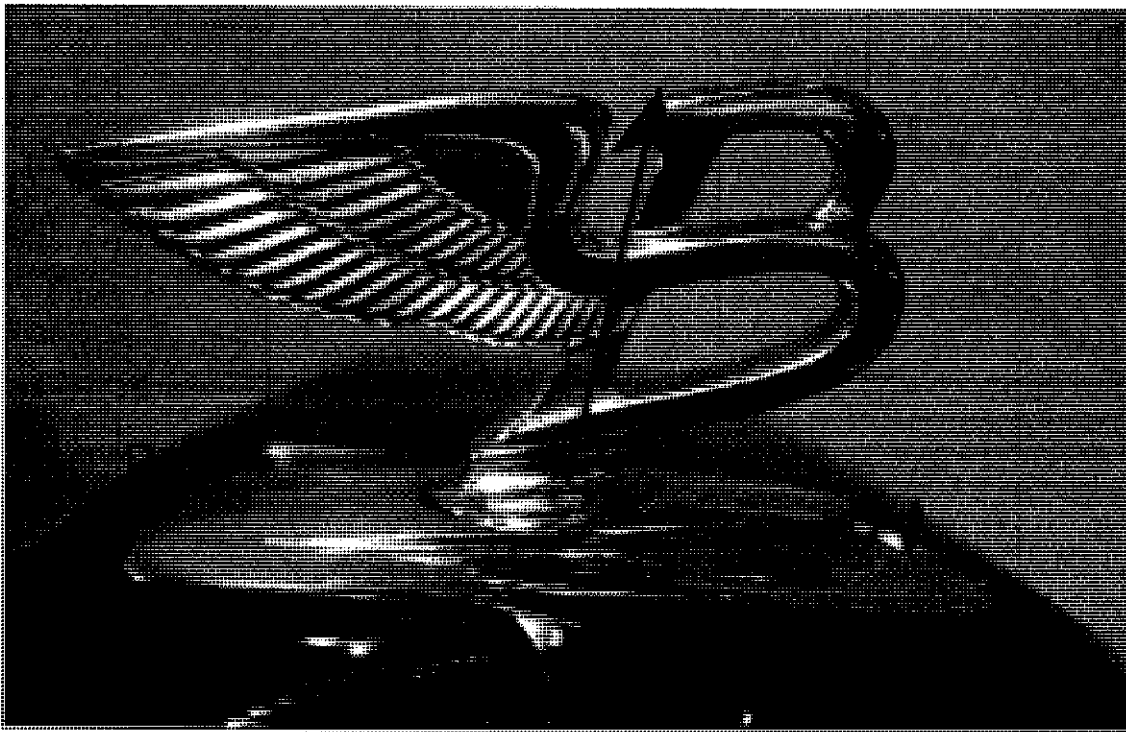
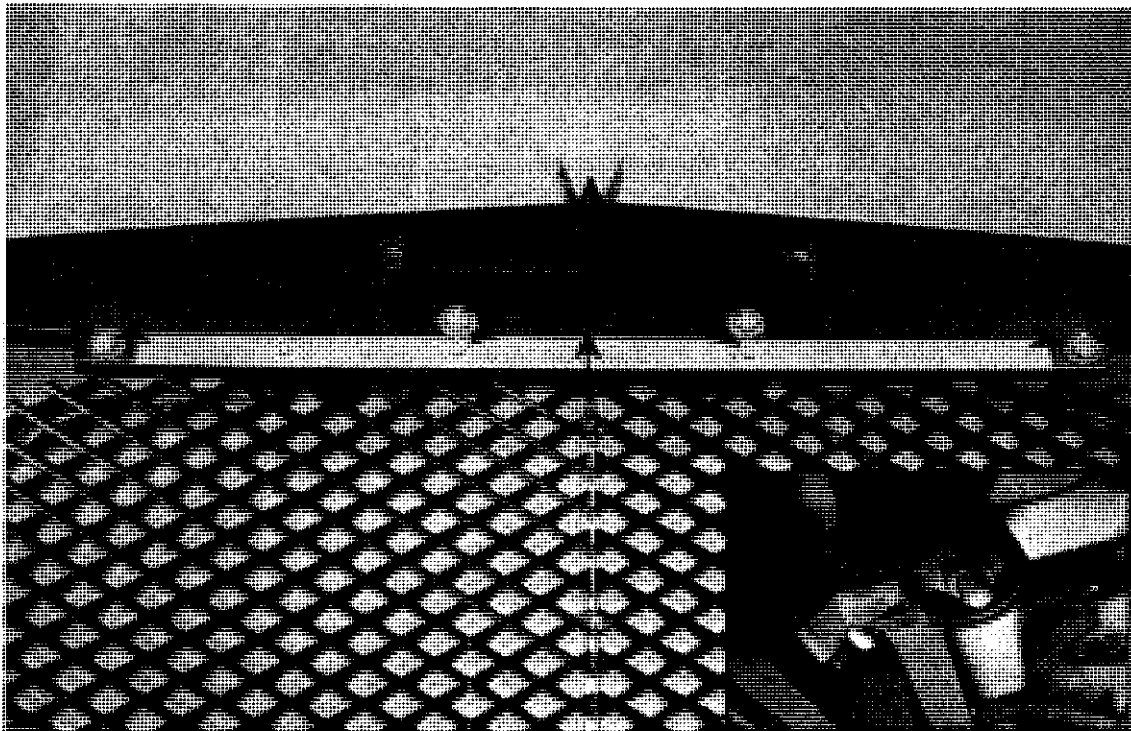

Figure 9
Figure 10
13. Referencing Figures 9 and 10, adjust the new mechanism to give sufficient overtravel in the system when the mascot is pulled up. This overtravel should exist at point B to allow the pawl to lock in and the mascot to stay up each time the mascot is reset. If the mascot does not latch into place, increase the overtravel by lowering the assembly relative to the radiator shell. This is done by lowering the new mechanism before tightening the screws detailed in Figure 10. Inset A shows the pawl correctly engaged